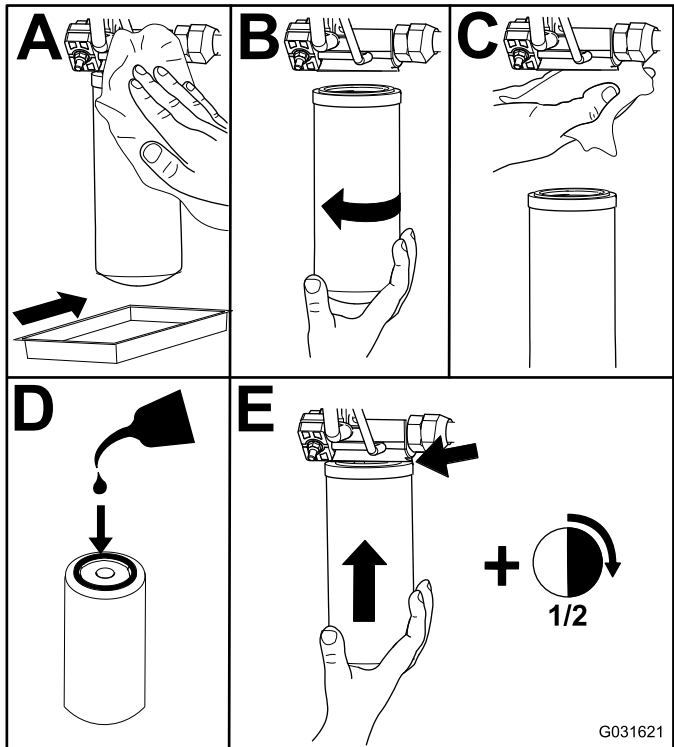

Figure 80
2. Replace the hydraulic filters (Figure 80).